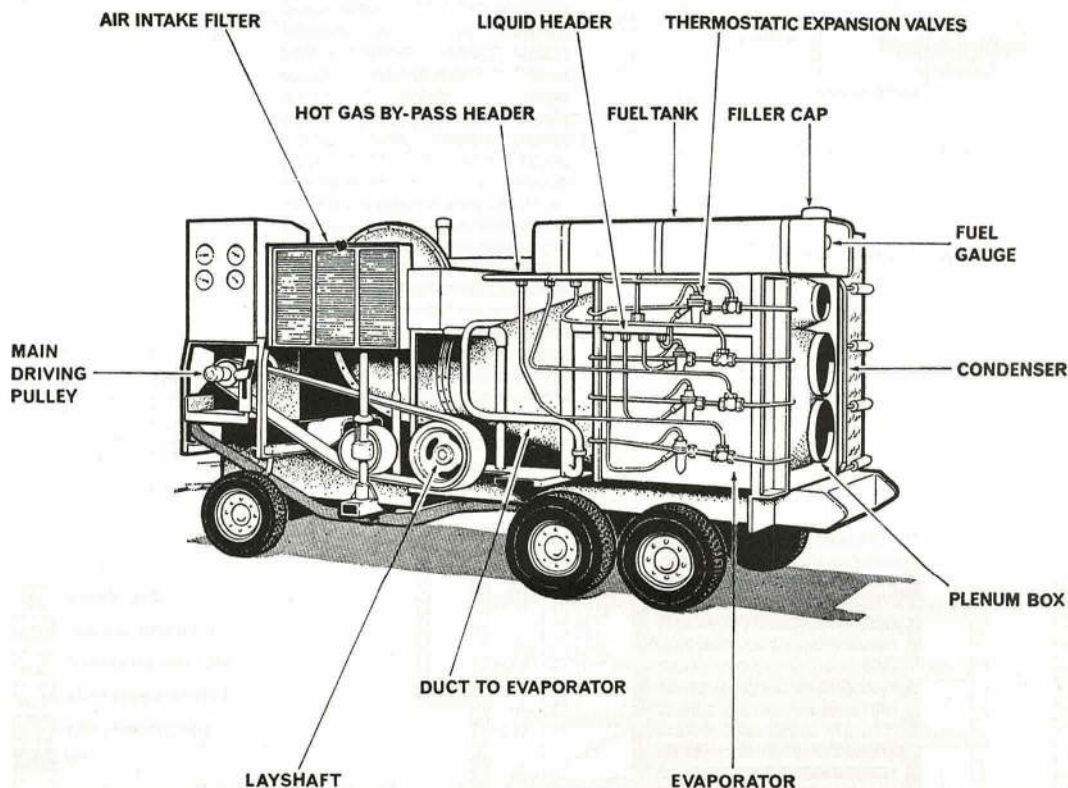

Fig. 7. TROLLEY AIR COOLING MK. 5A
34. This equipment (Fig. 7) is used to provide conditioned air to the interior and to certain equipment of V-class bomber aircraft. The equipment is mounted on a six-wheeled trolley, the conditioned air being derived from an engine-driven refrigeration plant using freon 12 as the refrigerant and operating in conjunction with a centrifugal fan which supplies the air via the refrigeration evaporator and flexible hoses to the positions in the aircraft.